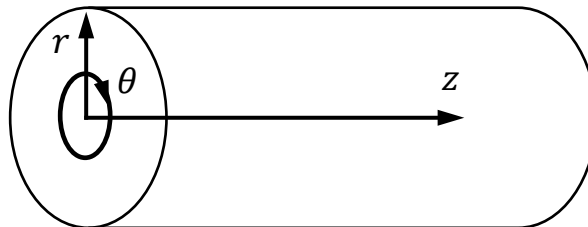

Figure 1[b]
- [b] As depicted in Figure 1[b], fluid flows through a pipe with a circular cross-section with radius $r = R$. The fluid flow is driven by a constant pressure gradient (dp/dz) along the axial direction. Ignore the pressure gradient in the radial and circumferential directions, $dp/dr = dp/d\theta = 0$. Also, ignore the gravitational effect and assume no velocity components in the radial and circumferential directions, i.e., $u_r = u_\theta = 0$.